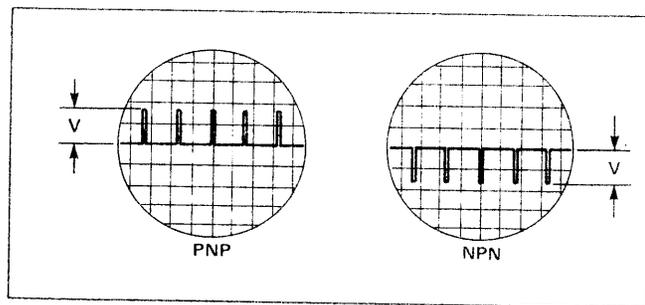

Fig. 10. Pulse voltage waveforms.
1. LEAKAGE/GAIN meter (19) should be zero calibration as per section "A".
2. Turn power switch (11) on and the DRIVE switch (10) to "LO" position. Connect the three test leads to a power transistor (any power transistor TO-3 package will do). Move Test Switch (4) through its positions until the unit indicates "GOOD" device (NPN/N-CH or PNP/P-CH lamp will light), and leave lever Test Switch (4) in that position.
3. Set NPN/PNP switch (12) to either "NPN/N-CH" or "PNP/P-CH" position, as indicated by the "GOOD" LED polarity. Set HI PWR/LO PWR switch (10) to its "HI PWR" position.
5. Turn TRANSISTOR BETA/FET g_m switch (9) to the "TRANSISTOR BETA" position. Observe oscilloscope. Record pulse voltage height (V) (Fig. 10).